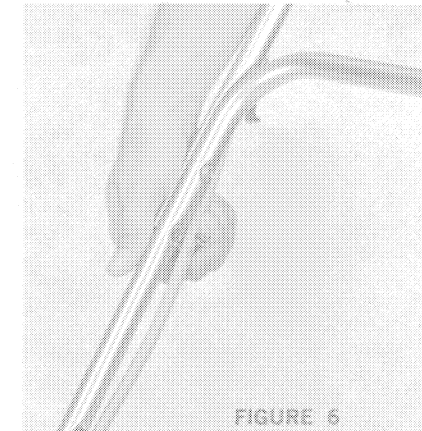

FIGURE 6
5. Plastic straps hold cord close to handle (Figure 6). Bend each strap around cord and push peg at outer end of strap into hole in inside end of strap where it is fastened to handle.